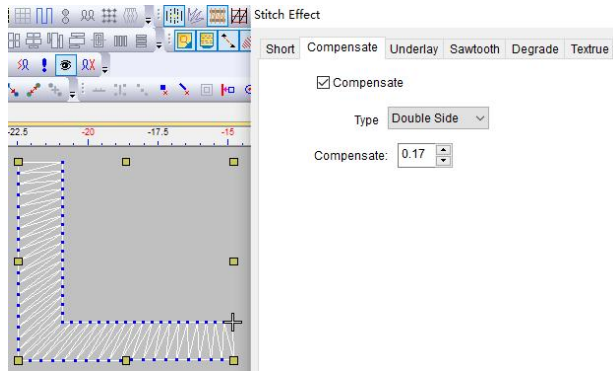

Figure 1
2. Right click on the "Shrinkage Compensation" position to set it, and click OK after completion (as shown in Figure 1).